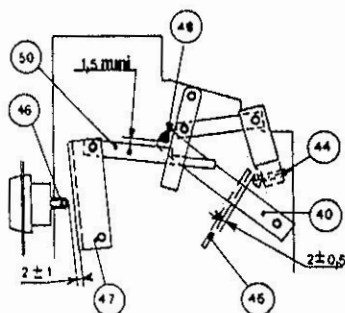

Fig. 22
- A. **Adjustment (Fig. 22).** Place breaker in tripped position with closing springs fully charged. Adjust screw (44) to obtain 4 ± 0.5 mm (0.158 ± 0.020 inch) clearance between lever (45) and end of screw (44). Adjust screw (46) on trip button for 4 ± 0.5 mm (0.158 ± 0.020 inch) clearance between strip (47) and screw end (46).